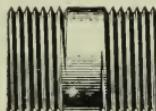

FIG. 25
**37.** Fig. 25 shows a right-hand **shoulder nipple**. The threads are both right hand. The short piece of unthreaded pipe in the center is called a **shoulder**.